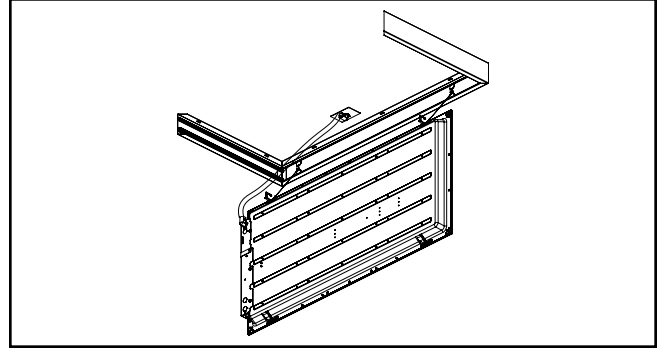

Figure 9.
- A9. Use flexible metal conduit with 90-degree conduit fittings to bring supply conductors into the wiring compartment on the back of the fixture. Wire according to instructions included with the fixture. (Figures 9.)